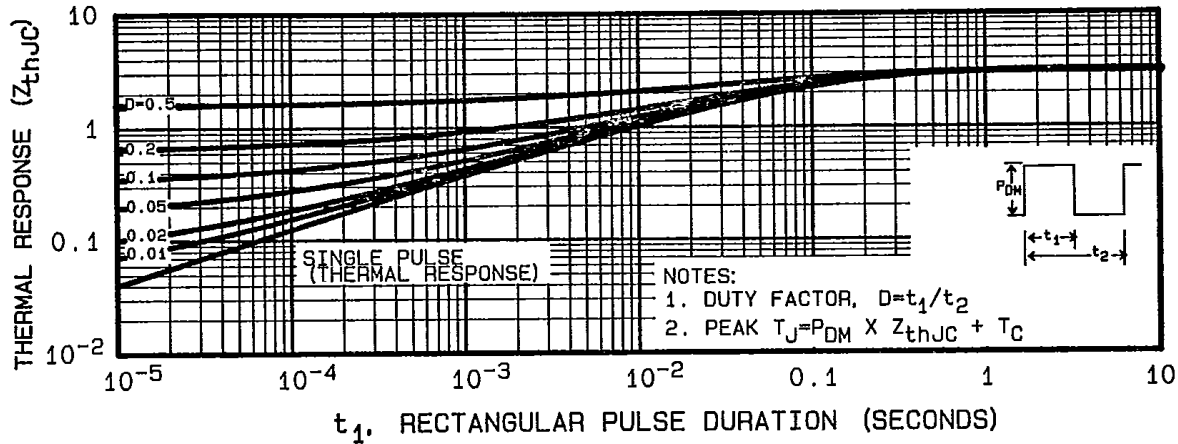

Fig. 5 — Maximum Effective Transient Thermal Impedance, Junction-to-Case Vs. Pulse Duration
①  $T_J = 25^\circ\text{C}$  to  $150^\circ\text{C}$       ② Repetitive Rating: Pulse width limited by max. junction temperature. See Transient Thermal Impedance Curve (Fig. 5).
③ @  $V_{dd} = -25\text{V}, T_J = 25^\circ\text{C}$       ④ Pulse Test: Pulse width  $\leq 300 \mu\text{s}$ , Duty Cycle  $\leq 2\%$
⑤  $K/W = \text{ }^\circ\text{C}/\text{W}$        $L = 100 \mu\text{H}, R_G = 25\Omega$